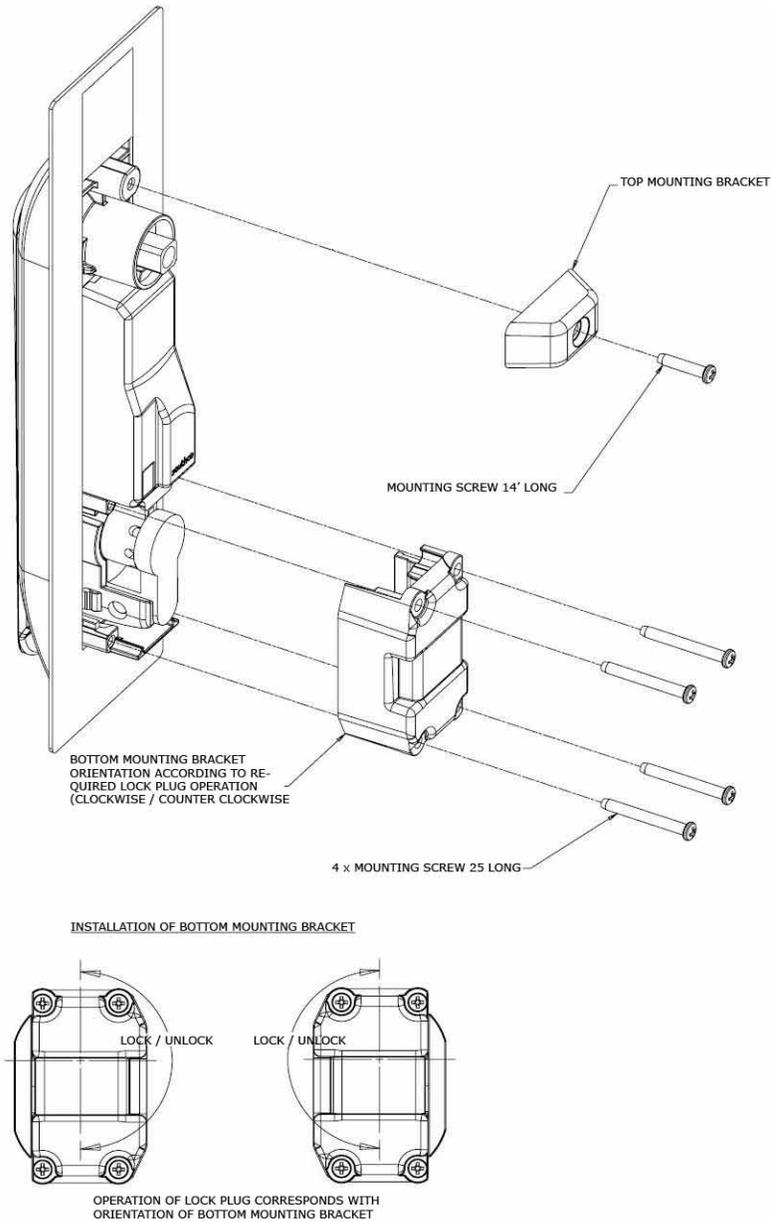

Figure 7a
- Secure the lock to the door using the top mounting bracket and bottom mounting bracket as show in Figure 7a. Do not over-tighten the screws in the bottom mounting bracket as this may jam the lock mechanism.
- For the db BioLock, connect the Door Interface Box to the back of the lock as shown in Figure 7a using the supplied 8" cable. **The wire will only plug in one way.**